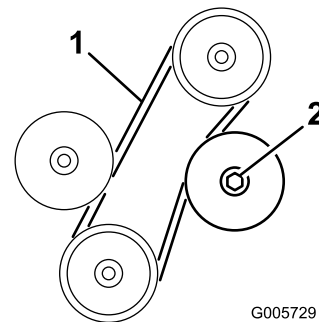

Figure 65
3. Belt should deflect 1/4 inch (6 mm) midway between the pulleys with 5 lb. force (22 n) (Figure 65). If deflection is incorrect, proceed to step 4. If correct, proceed to step 5.
4. Loosen locknut securing adjustable idler pulley (Figure 65). Push idler pulley against belt until proper deflection is achieved and tighten idler pulley locknut (Figure 65).
2. Loosen locknut securing adjustable idler pulley, slide pulley away from belt, and remove belt from pulleys (Figure 65).
pulley and stationary idle pulley. Tighten idler pulley locknut to secure adjustments (Figure 65).